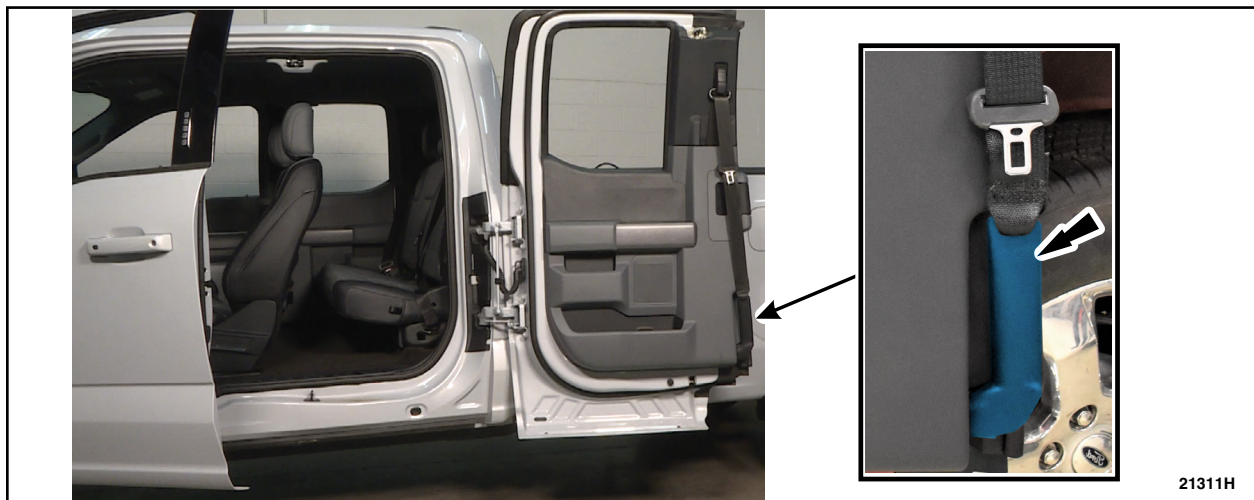

FIGURE 1
2. Locate the driver seatbelt's soft rubber trim sleeve near the bottom of the second-row door. See Figure 1.